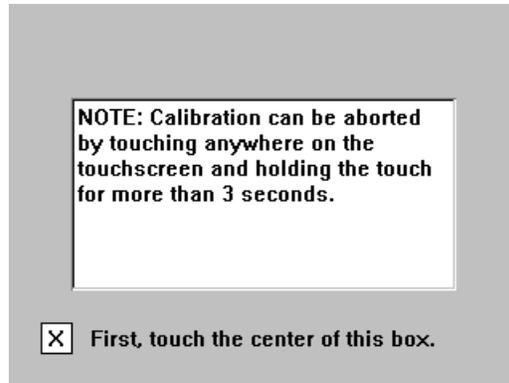

Figure 5-30: Initial Touchscreen Calibration Screen
The initial touchscreen calibration screen is displayed (Figure 5-30).
3. Use a stylus or similar blunt instrument to gently touch the center of the box indicated in Figure 5-30.